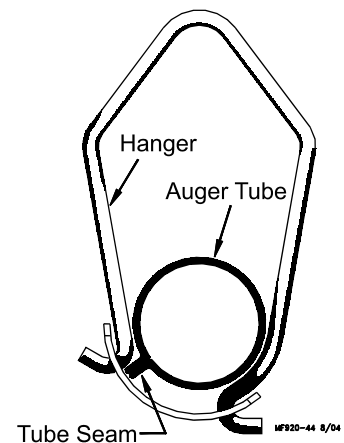

Figure 31. Hanger Installation
- To achieve total feed drop out all along the system, the Chore-Time logo should be centered at the crown of the tubes and all the Hangers should be installed as shown in **Figure 31.**